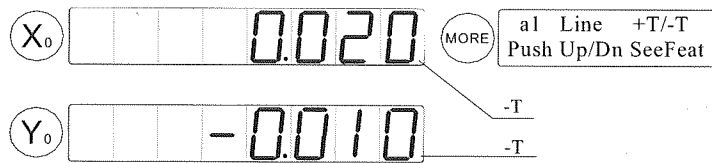

Figure 1-13
- 3) Press **MORE**, and the message is displayed as in figure1-13. The displayed values of the X and Y axes imply the linearity of a1.